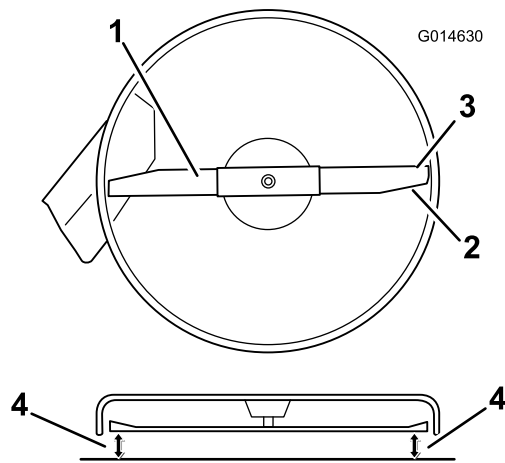
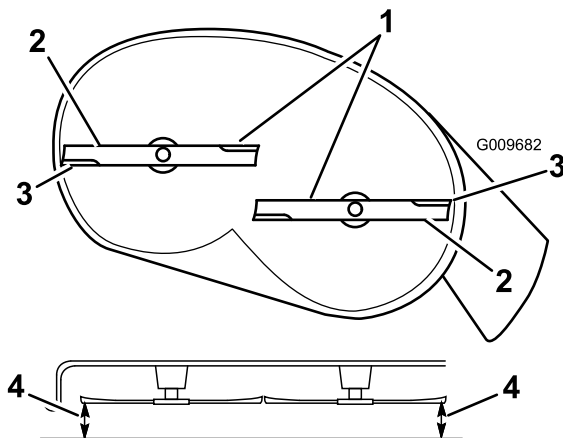

Figure 56
Figure 57
- Carefully rotate the blade(s) so that they are all side to side (Figure 56 and Figure 57).
5. Measure between the outside cutting edges and the flat surface (Figure 56 and Figure 57).